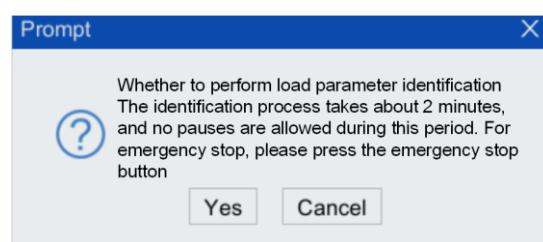

Figure 4-14 Prompt window
Step5. Select the tool number that needs to be saved in the [Saved to tool inertia parameters]. Click <Start identification> and a prompt window will pop up as shown in Figure 4-14.